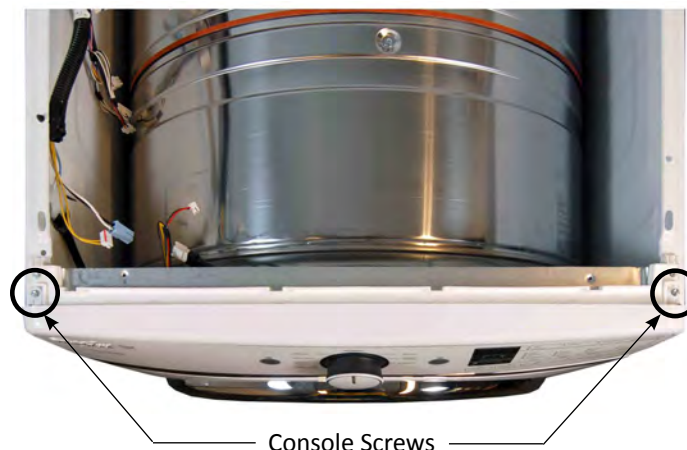

Figure 3
2. Remove the two (2) 1/4" hex head screws securing the console to the cabinet (see Figure 3).